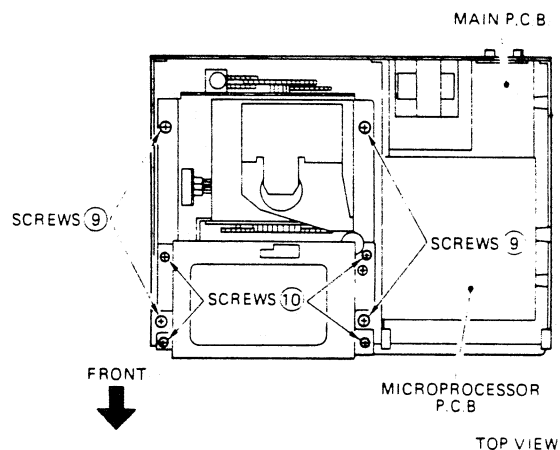

Fig. 6
- 2) Remove 4 screws (9) and lift the mechanism ass'y up to remove it. (Fig. 6)
Remove 4 screws (10) and remove the disc change ass'y. (Fig. 6)